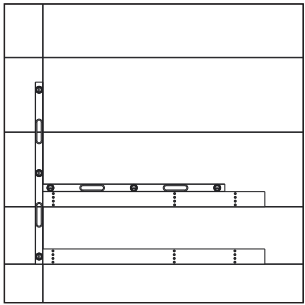

Figure 8: Repeat Stud Attachment Pattern
9. For all subsequent rows, repeat the stud attachment pattern from the bottom row. Refer to **Figure 8**. Verify the tube is horizontally level and the tubes are plumb and level to each other by a tolerance of ±1/4" in the X-axis and by +1/4"-1/2" in the Y-axis. Y-axis tolerance for the top tube is ±1/4" to prevent the tube from extending above the top of the display.